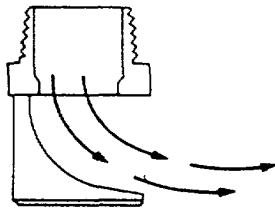

FIG. 10
1. 180° Fan nozzle. See Figure 10.